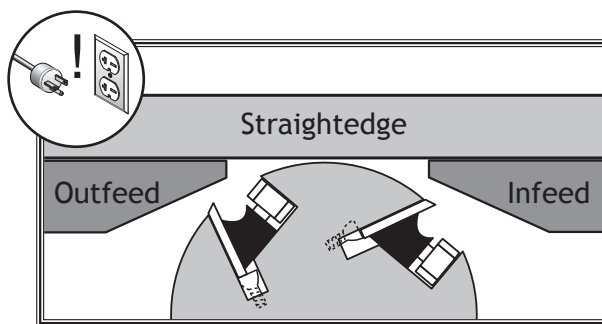

Figure 50. Checking table parallelism.
4. Rotate cutterhead until knife/insert is not at TDC, extend straightedge over both tables, raise infeed table until it contacts straightedge (see **Figure 50**), then lock infeed table.